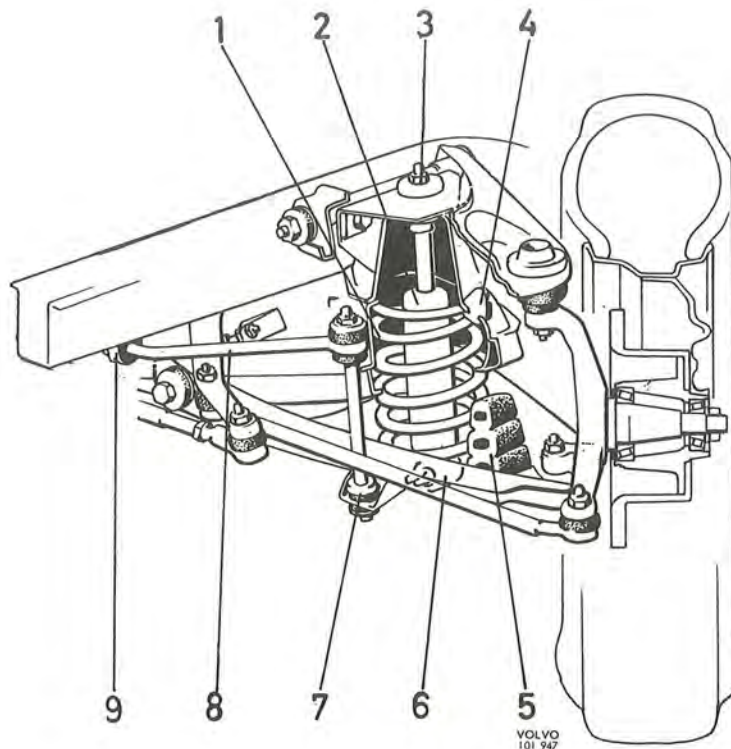

Fig. 7-2. Front spring and shock absorber
The Volvo 164 is provided with coil springs front and rear. The front wheel suspension is independent. The upper ends of the front springs (1, Fig. 7-2) are seated in housings formed in the front axle member, and in the lower ends are seated in the lower wishbones. The lower wishbones are also provided with rubber buffers (5), which absorb any impacts arising from loading on the spring. The front axle member is fitted
4. Disconnect the steering rod from the steering arm. Loosen the clamp for the brake hoses. Remove the attachment (7, Fig. 7-2) for the stabilizer.
The stabilizer (8, Fig. 7-2) which is attached to both the lower wishbones (7) and to the frame (9), increases the stability of the vehicle.